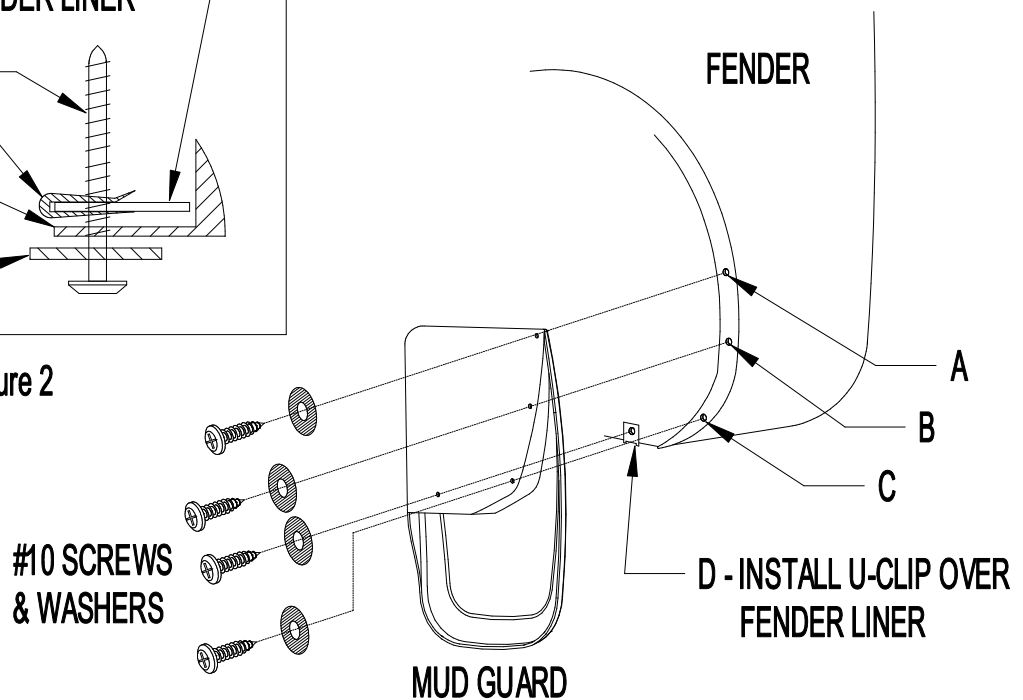

Figure 1
4. Install a U-clip at location D, over the fender liner and align with drilled hole (Figure 1 and 2).